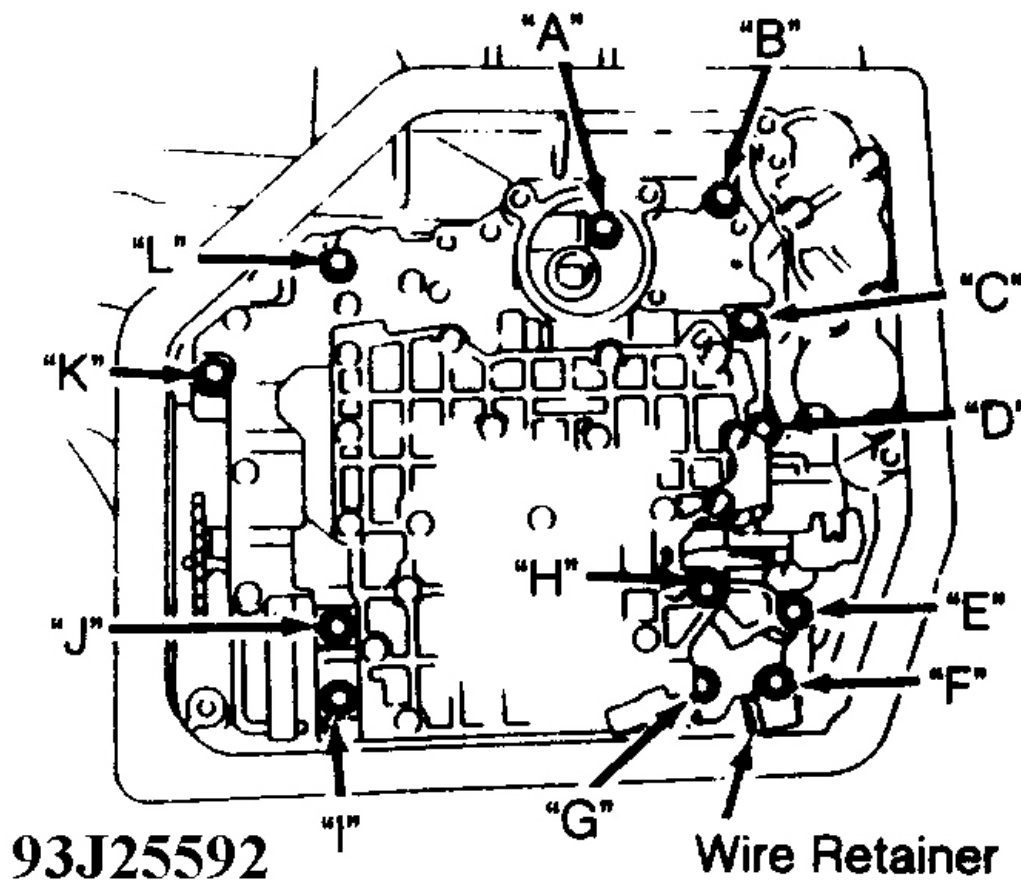

Fig. 3: Identifying Control Valve Assembly Bolts
2. Remove manual detent spring. Disconnect solenoid connector(s). Remove control valve assembly bolts. Note bolt length and location. See **Fig. 3**. Remove throttle cable. Disconnect manual valve connecting rod. Remove control valve assembly. Remove governor apply gasket (if equipped).
2. Install control valve assembly bolts finger tight. Ensure proper length bolts are installed in proper location. See **Fig. 3**. See **CONTROL VALVE ASSEMBLY BOLT SPECIFICATIONS**. Tighten bolts to 89 INCH lbs. (10 N.m). Connect solenoid connector(s). Install detent spring and tighten bolt to 89 INCH lbs. (10 N.m). Ensure manual valve lever contacts center of roller on detent spring. Using a plastic hammer, tap oil tubes into place.
(1) For bolt locations, see Fig. 3 .